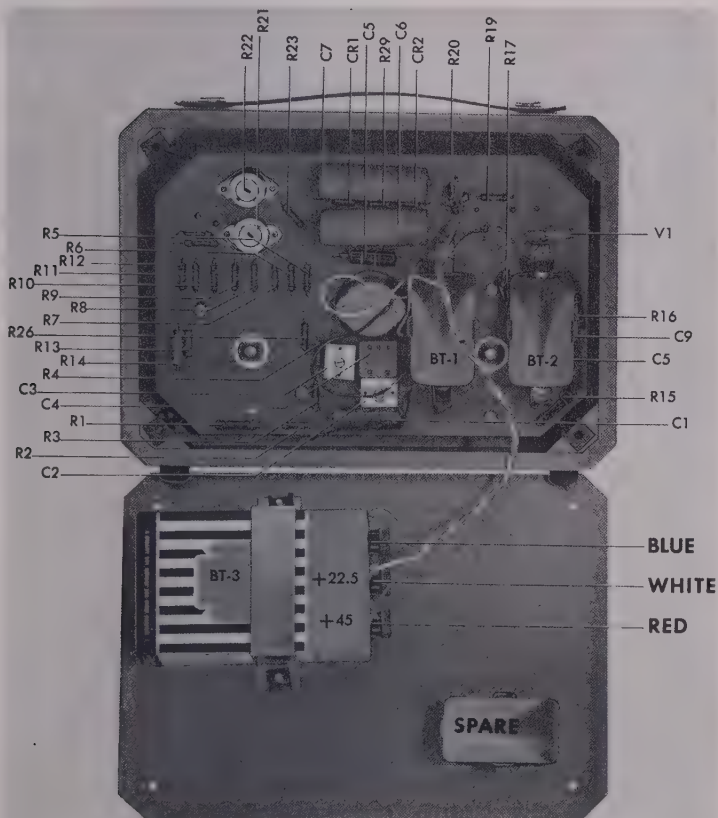

Figure 14. Model 982 Internal View
PARTS AND REPLACEMENT: Figure 14, page 25 shows the etched circuit panel view of the instrument and the location of all parts. To open the rear panel, remove the four corner screws on the back. This will make all components visible and make the batteries accessible for replacement.
If a component has become damaged, identify the part using figure 14 and the parts list.
- f. Unscrew the three Bakelite terminals on the top of the 45 volt battery and connect the red, white and blue leads coming from the etched circuit to the terminals indicated in figure 14, page 25.